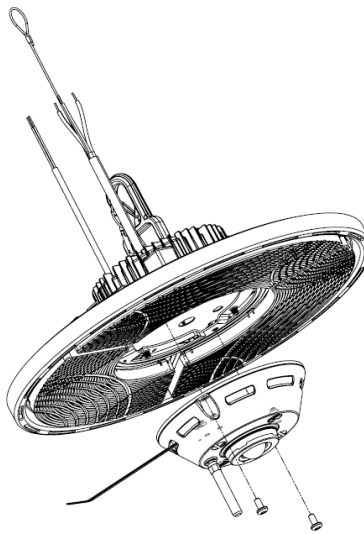

Figure 5
5. Position the full Sensor Logo Assembly where the CPRB Cover was a screw the CPRB Sensor Logo Cover on to the CPRB Fixture. A detailed exploded view is shown in **Figure 5**.